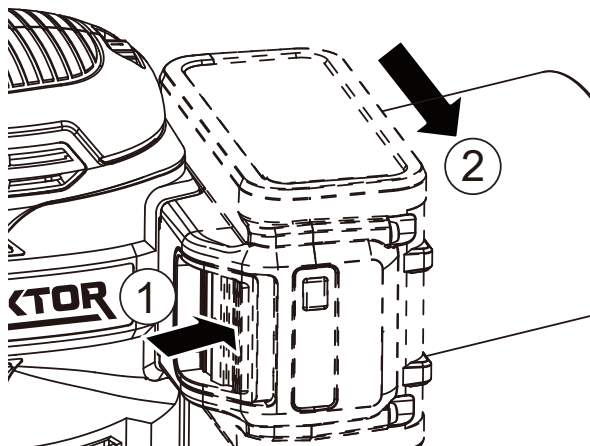

Figure 6
6. REMOVING OR INSTALLING THE BATTERY PACK (NOT SUPPLIED) (SEE FIG. 6, 7)